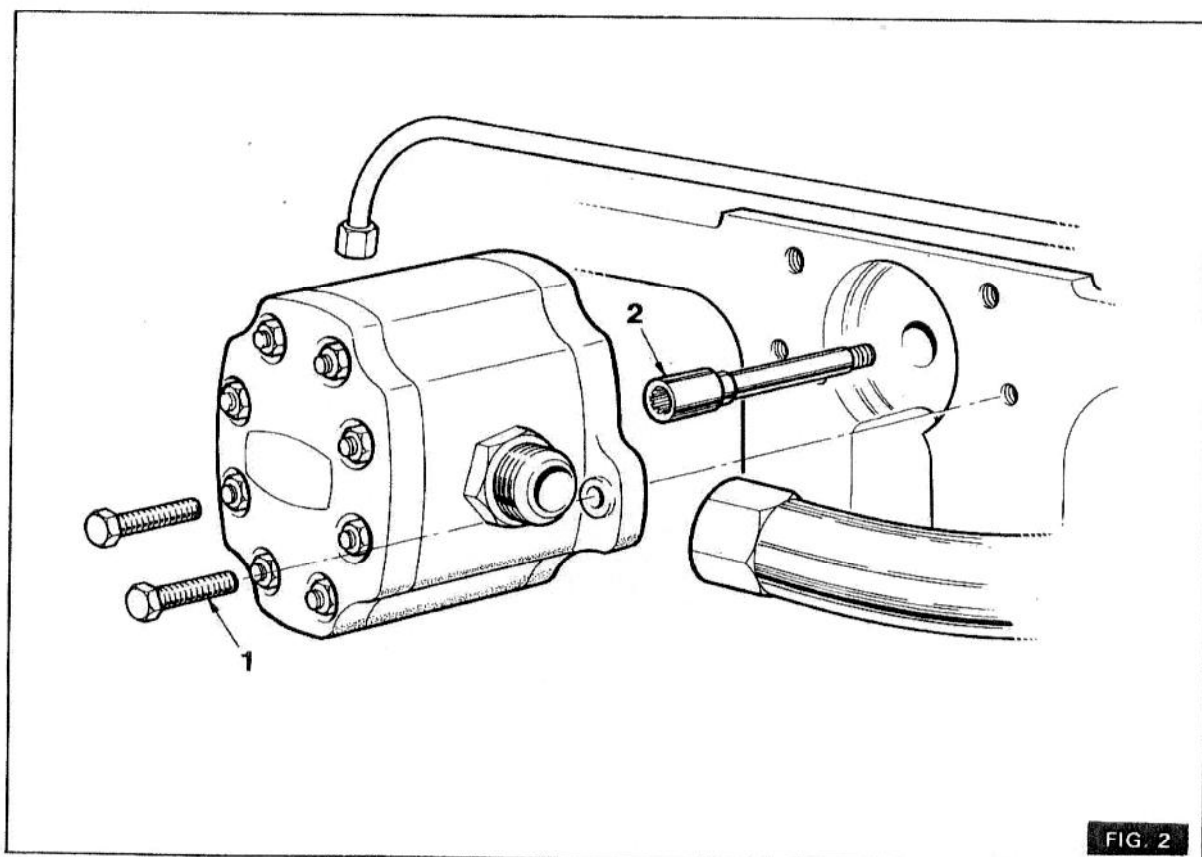

FIG. 2
2. Fig. 2 Remove the hydraulic oil filter securing bolt and nut (1).
3. Slacken the two main suction hose clips (2) and pull the hose off the filter.
4. Pull the complete filter unit (3) from the frame.
5. (Fig. 2). Remove the two pump securing bolts.(1).
6. Slide the pump splined drive gear out of the drive shaft (2).